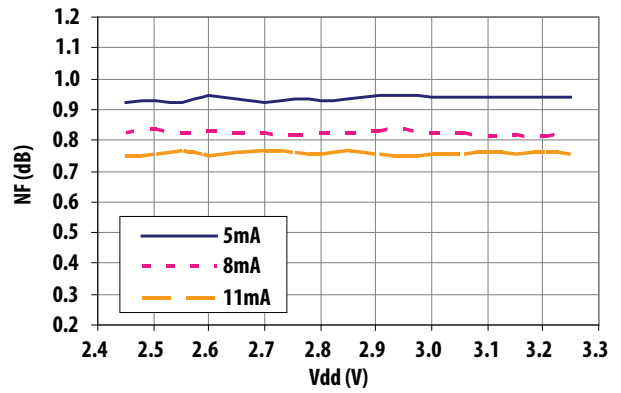

Figure 6. NF vs. Vdd vs. Idd
8. Measurements at 1.575 GHz obtained using demo board described in Figures 6 and 7.
Table 3. Typical Performance at Low Operating Voltages with R2 (See Figures 6 and 7) Set to 0 ohms
- The demoboard of Figure 6 is Rogers® RO4350 with typical $Dk=3.48$ (@10GHz).
The S- and Noise Parameters are measured using the PCB described in Figures 6 and 7. The PCB material is 10 mils Rogers® RO4350. Figure 23 shows the input and output reference planes. The circuit values, with the exception of L3, are as indicated in Figure 6.